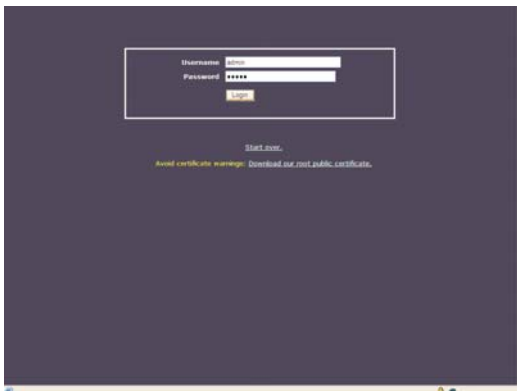

Figure 4-1. Login screen.
- Before you can access the Web configuration interface, you must type in a username and password. The default username and password as shipped from the factory is username `admin` with a password of `admin`. See Figure 4-1.